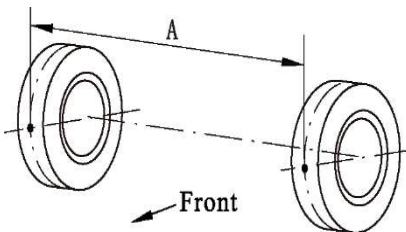

Figure 3
- 3)Measure the distance between the left and right tire mark and rotate to the front. As shown in figure 3.